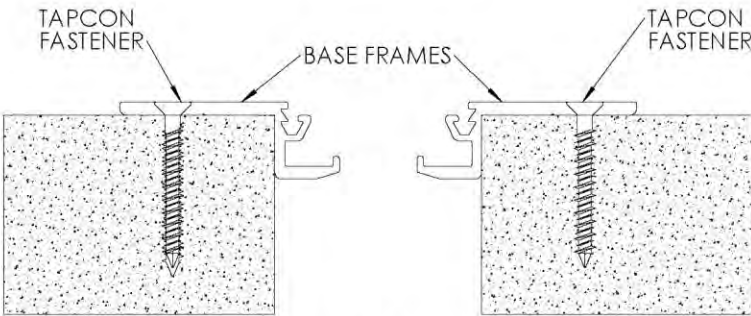

FIGURE 1
1. Position base member frames in expansion joint per shop drawings. Using the frames as a template, mark and drill 3/16” holes in the concrete. Install base member frames with supplied Tapcon fasteners, making sure not to over tighten. **See Figure 1**